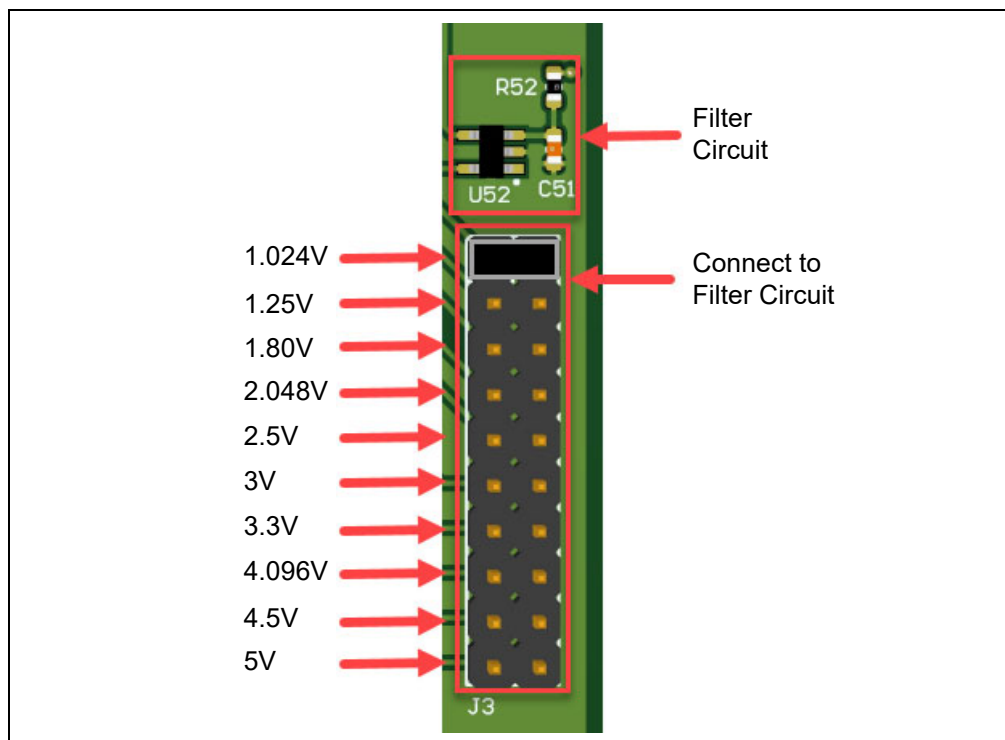

FIGURE 2-6: Connection to the Filter Circuit.
- The J3 connector can be used to connect the MCP1502-XX outputs to the on-board filter circuit (see Figure 2-6). For example, in Figure 2-6, the 1.024V output is connected to the Filter circuit. It is possible to connect any of the 10 Vref output to the filter circuit one at a time.